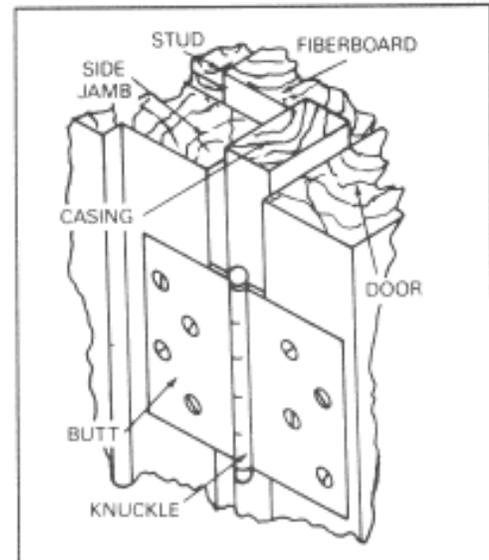
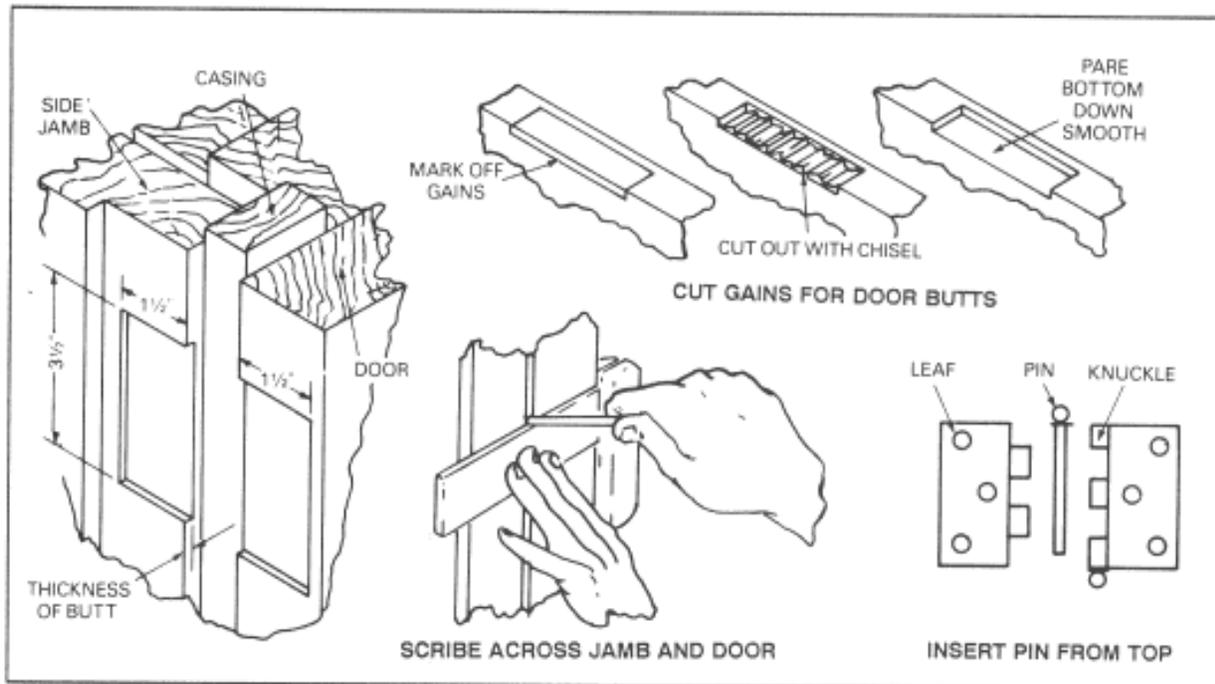

Figure 8-10. Door butt (hinge)
Figure 8-11. Installing door butts (hinges)
Step 5. Door butts (or hinges) (Figure 8-10) are mortised into the door frames as shown in Figure 8-11, page 8-8. Use three butt hinges on all full-length exterior doors to prevent warping and sagging. Place the butts and mortise them with the utmost accuracy so that the door will open and close properly, and so that the door, when open, will not strike the casing. The butt pin must project more than half its thickness from the casing.